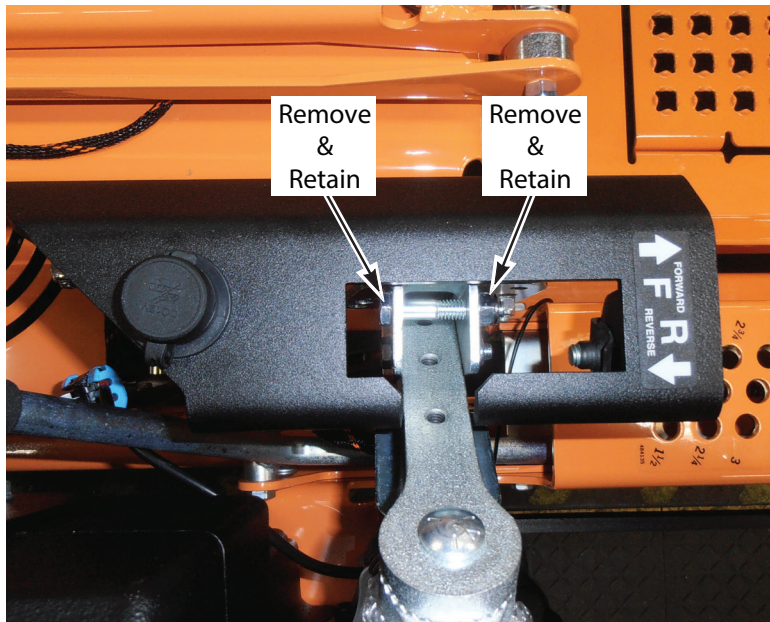

Figure 2. Remove & Retain Hardware - RH Shown
- 1.) Remove and retain the 5/16-18 x 1-3/4" hex head bolt and 5/16-18 elastic stop nut identified in Figure 2 below.